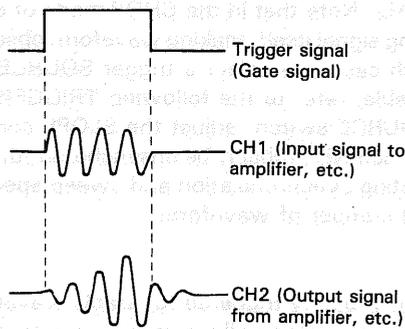

Fig. 6
When the SOURCE selection is in NORM and EXT, the input signal at the EXT TRIG INPUT ⑳ jack becomes the trigger. This signal must have a time or frequency relationship to the signal being observed to synchronize the display. External sync is preferred for waveform observation in many applications. For example, Fig. 6 shows that the sweep circuit is driven by the gate signal when the gate signal in the burst signal is applied to the EXT TRIG INPUT jack. Fig. 6 also shows the input/output signals, where the burst signal generated from the signal is applied to the instrument under test. Thus, accurate triggering can be achieved without regard to the input signal fed to the INPUT ⑧ or ⑬ jack so that no further triggering is required even when the input signal is varied.